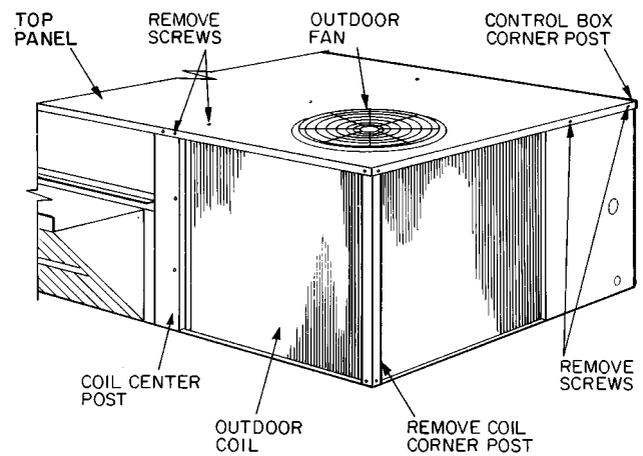
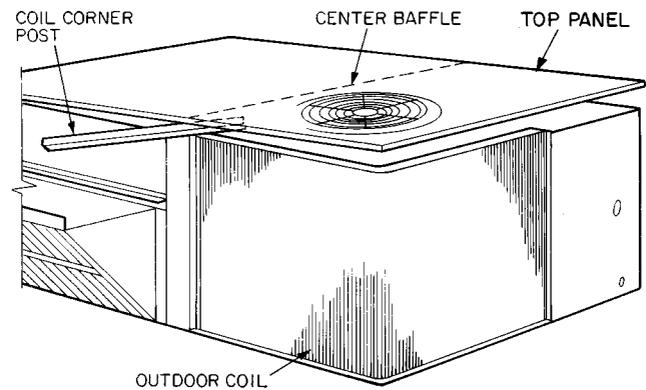

Fig. 21 — Cleaning Outdoor Coil
Fig. 22 — Propping Up Top Panel
3. Remove outdoor-coil corner post. See Fig. 21. To hold top panel open, place coil corner post between top panel and center post. See Fig. 22.